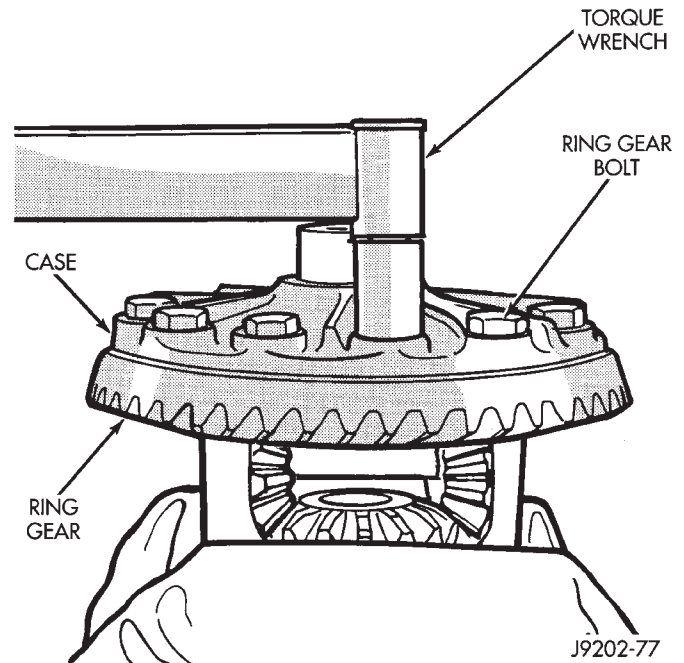

Fig. 43 Ring Gear Bolt Installation
(1) Invert the differential case and start two ring gear bolts. This will provide case-to-ring gear bolt hole alignment.
(2) Invert the differential case in the vise.
(3) Install new ring gear bolts and alternately tighten to 95–122 N·m (70–90 ft. lbs.) torque (Fig. 43).
(4) Install differential in axle housing and verify gear mesh and contact pattern.